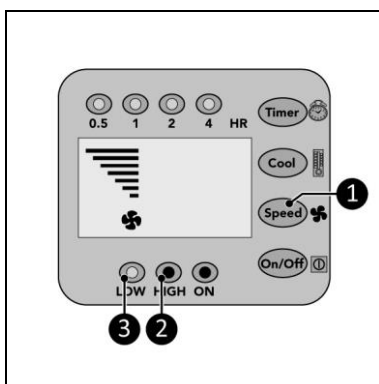

Figure 11
1. Press the Speed button (Figure 11, pos. 1) repeatedly to set the required speed setting:
- High: high indicator (Figure 11, pos. 2) will light up and the speed graph will show 7 bars.
- Low: low indicator (figure 11, pos. 3) will light up and the speed graph will show 4 bars.